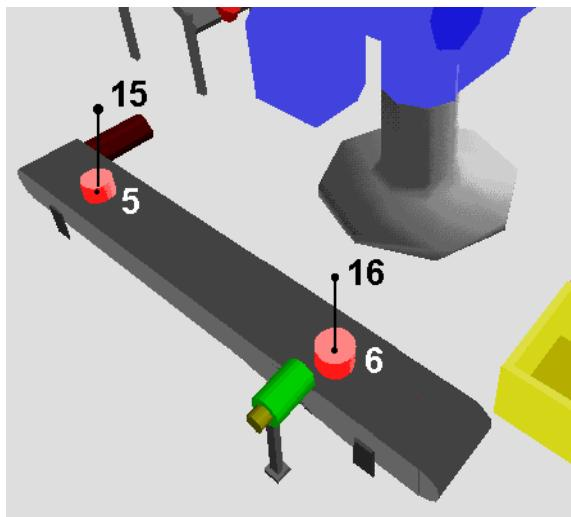

Figure 14-2
- 11** Manipulate the robot so the part will be at position #5, as shown in Figure 14-2.